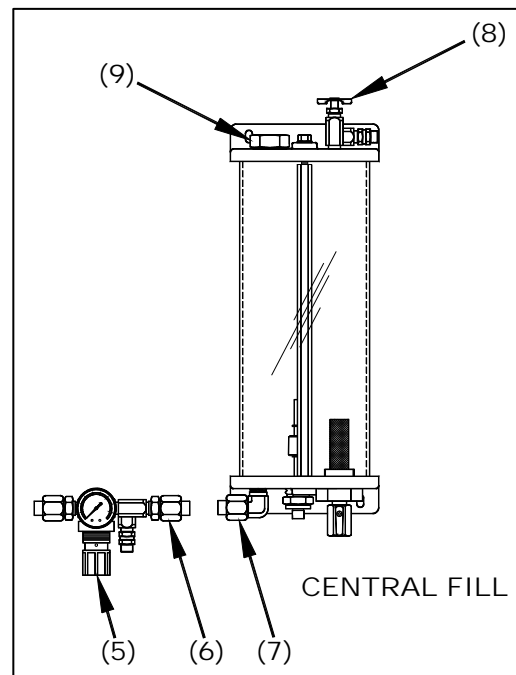

**Fig. 2: Filter-Regulator/Pressure switch assembly**
1. Filter-Regulator/Pressure switch assembly (Ref. Fig. 2): For supply air filtration, regulation and protection, the Series 170 provides as a standard a filter-regulator/pressure switch assembly.
- a. Filter (1): (5-micron element, auto-drain, and polycarbonate bowl).